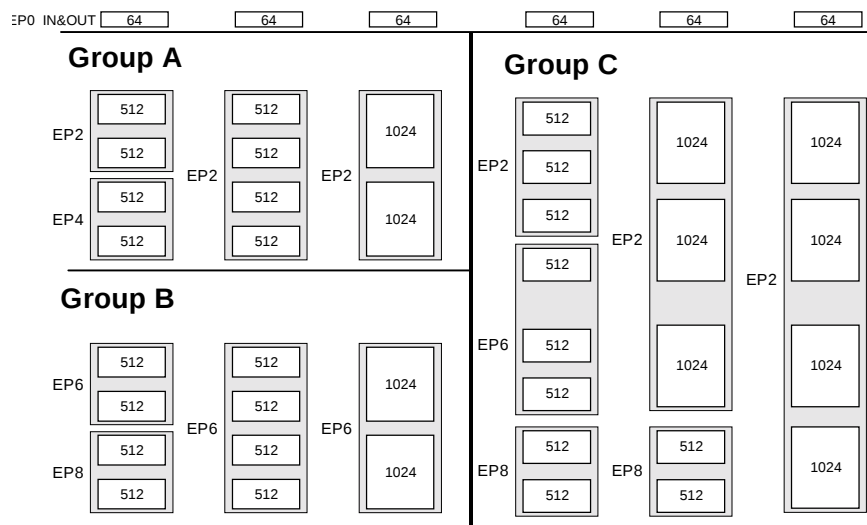

Figure 3-1. Endpoint Configuration
- **EP2,4,6,8 Eight 512-byte buffers, bulk, interrupt, or isochronous. EP2 & 6 can be either double, triple, or quad buffered. For High Speed endpoint configuration options see Figure 3-1.**
Endpoint 0 is the same for every configuration. Endpoint zero is only the CONTROL endpoint. For Endpoints 2,4,6,8, refer to Figure 3-1. Endpoints 2,4,6, and 8 may be configured by choosing either: